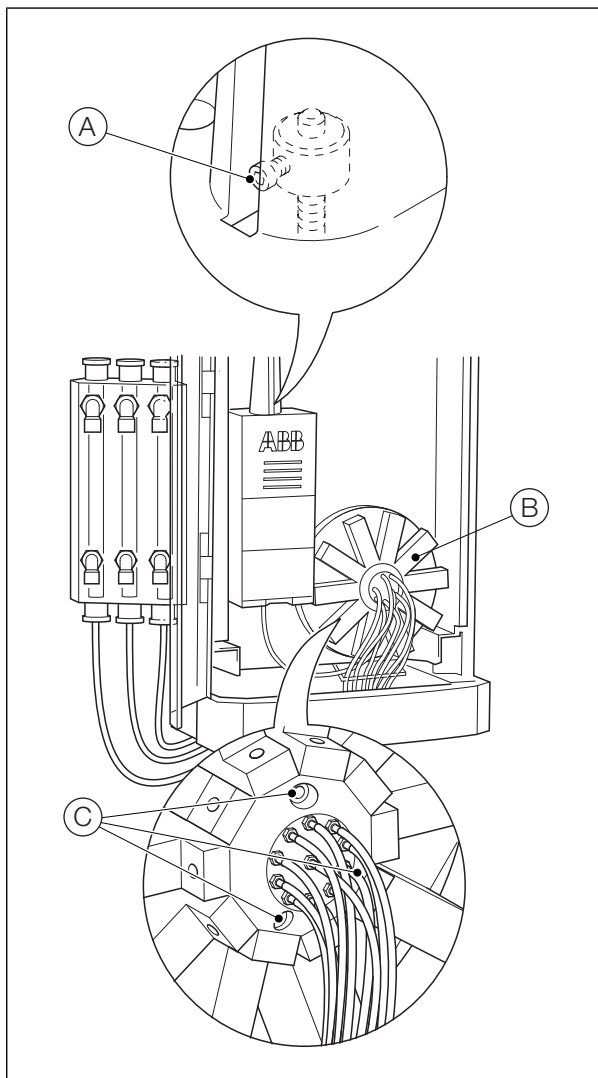

Fig. 13.1 Removing the Manifold
1. Referring to Fig. 13.1:
- a. Check that anti-rotation device (A) is positioned at the bottom of the slot in the measurement cell top cover, indicating that the measurement cell piston is at the bottom of its stroke.
4. Referring to Fig. 13.1:
- a. Open the analytical section door and record the fitted position of each of the tubes connected to the valve manifold (B) to prevent reconnection errors.